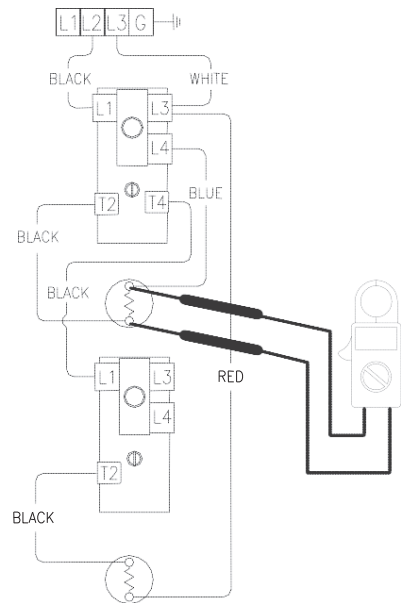

Figure 30
5. Check across element terminals (see Figure 30).